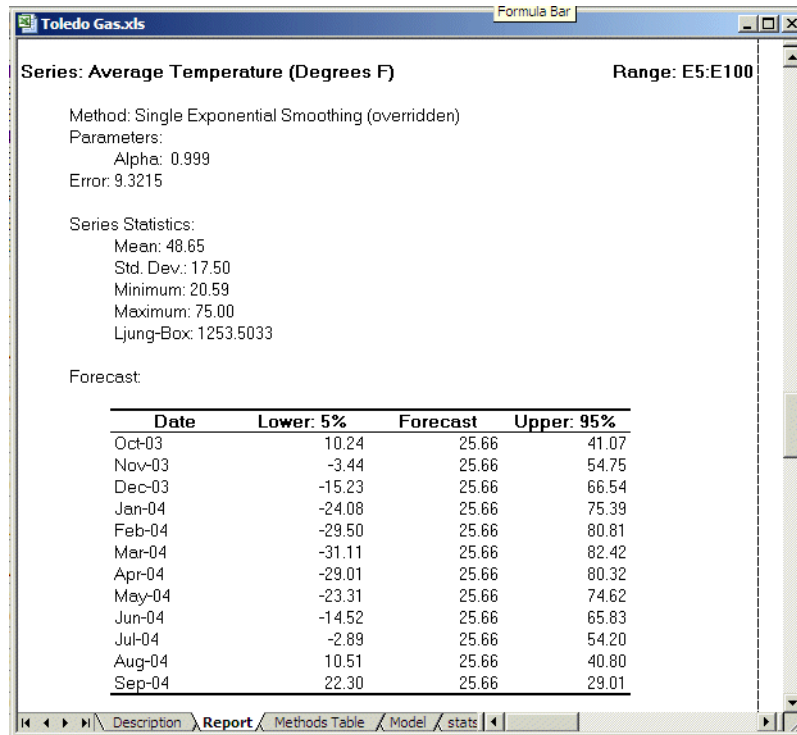

Figure 1.21 Average temperature data for Toledo Gas
25. Activate the Report worksheet and scroll to the section on the Average Temperature variable as shown in Figure 1.21.